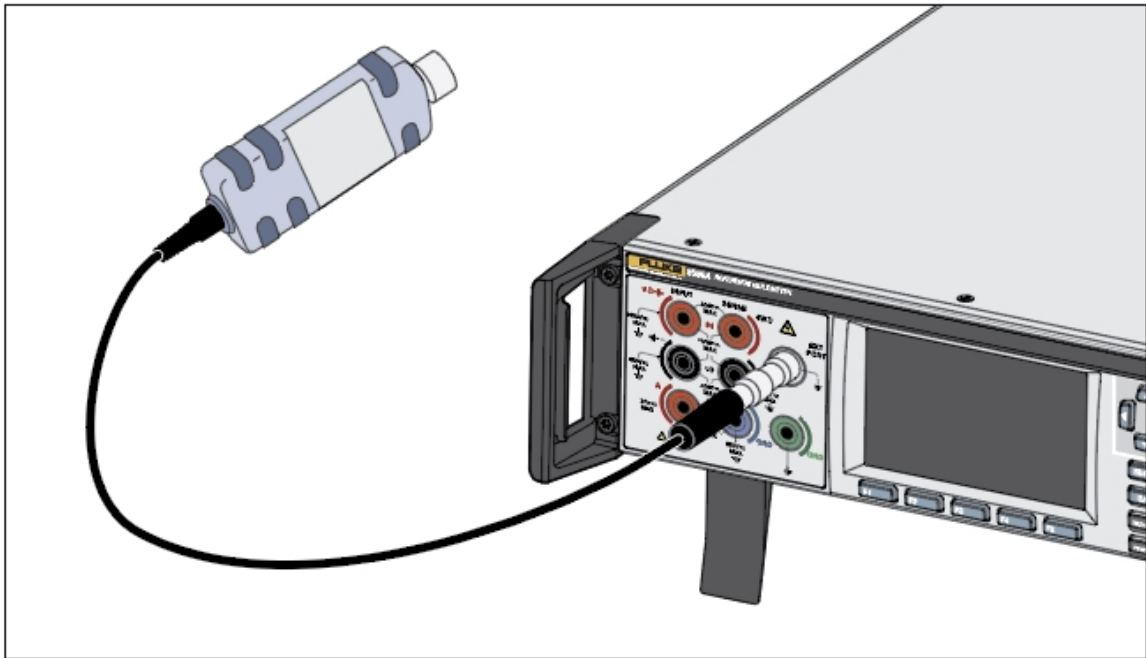

Figure 15. Connect a Power Sensor to the Product
2. Connect the multiway connector to the EXT PORT on the Product. Push firmly on the multiway connector until it latches. See Figure 15.